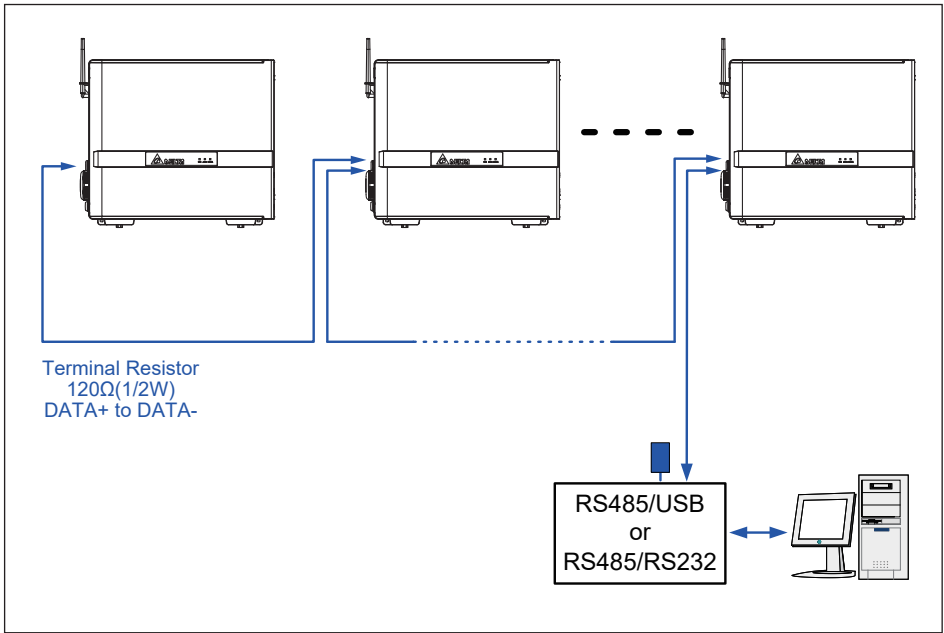

Figure 3-23: Multiinverter connection illustration
- When several inverters are cascaded (i.e., "daisy-chained") only the last inverter in the chain must have its bus termination resistor switched ON (**Figure 3-23**).